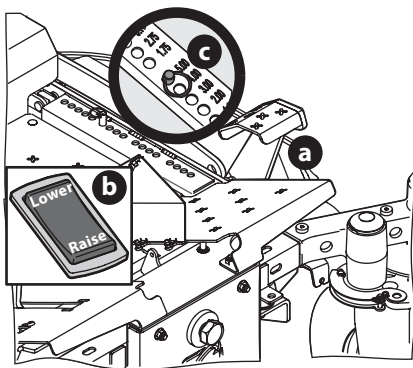

Fig. 27
1. Use the deck lift pedal (a) or push down on the back of the electric deck lift switch (b) (if equipped) to raise the deck to its highest position, place the clevis pin (c) attached to the mower into the desired index hole on the deck height index, then slowly release the deck lift pedal (a) or slowly lower the deck by pressing down on the front of the electric deck lift switch (b) (Fig. 27).